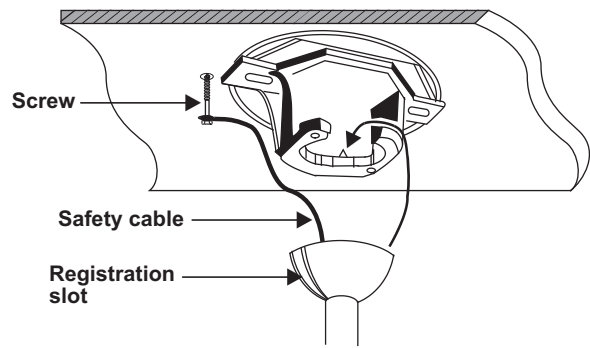

Figure 8
9. Now lift the motor assembly into position and place the hanger ball into the hanger bracket. Rotate down rod until the "Check Tab" has dropped into the "Registration Slot" and the down rod and ball assembly seat firmly. The down rod and ball assembly should not rotate if this is done correctly. (Fig. 8)
10. An additional safety support is provided to prevent the fan from falling. Secure the safety cable to the ceiling joist with screw and washer. (Fig. 8)